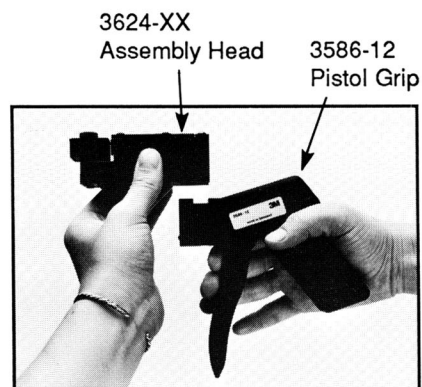

Figure 1
1. Assemble a 3624-XX Assembly Head on to the 3586-12 Pistol Grip. See Figure 1.